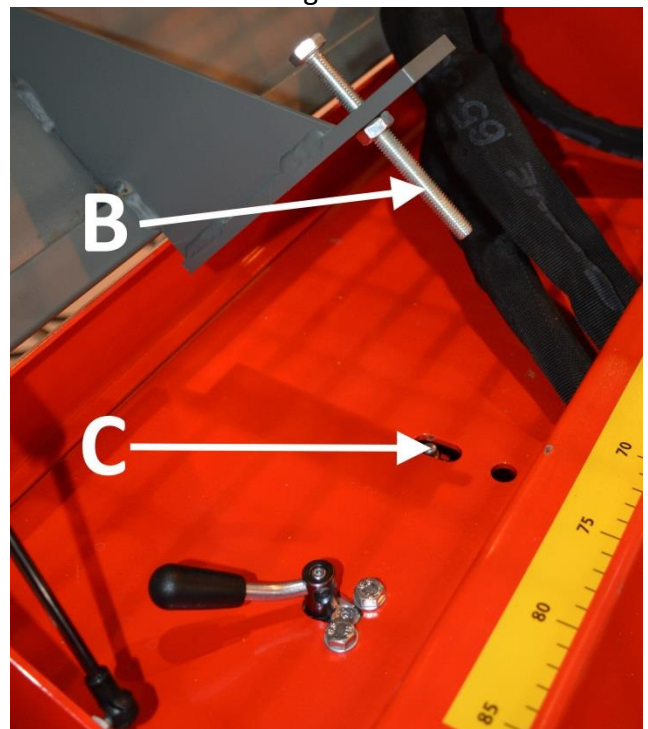

Figure 56.
1. When the head of bolt B presses the safety sensor switch C to the lower position (Figure 56), the electrically controlled functions, such as sawing and splitting, are operational.